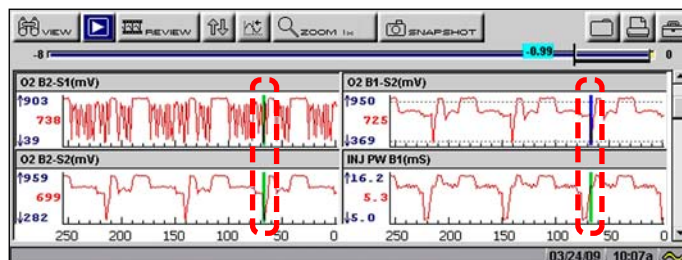

Figure 5-28 Sample trigger detection lines
Once data collection is finished, graphing on-screen stops and the Pause button automatically changes to the Play button. A vertical line now appears on each of the data graphs to indicate the triggering point. The trigger line on the parameter that triggered the snapshot is a different color than those on the other graphs (Figure 5-28). This makes it easy to determine which parameter caused the trigger.
- Select the **Play** button (Figure 5-28).